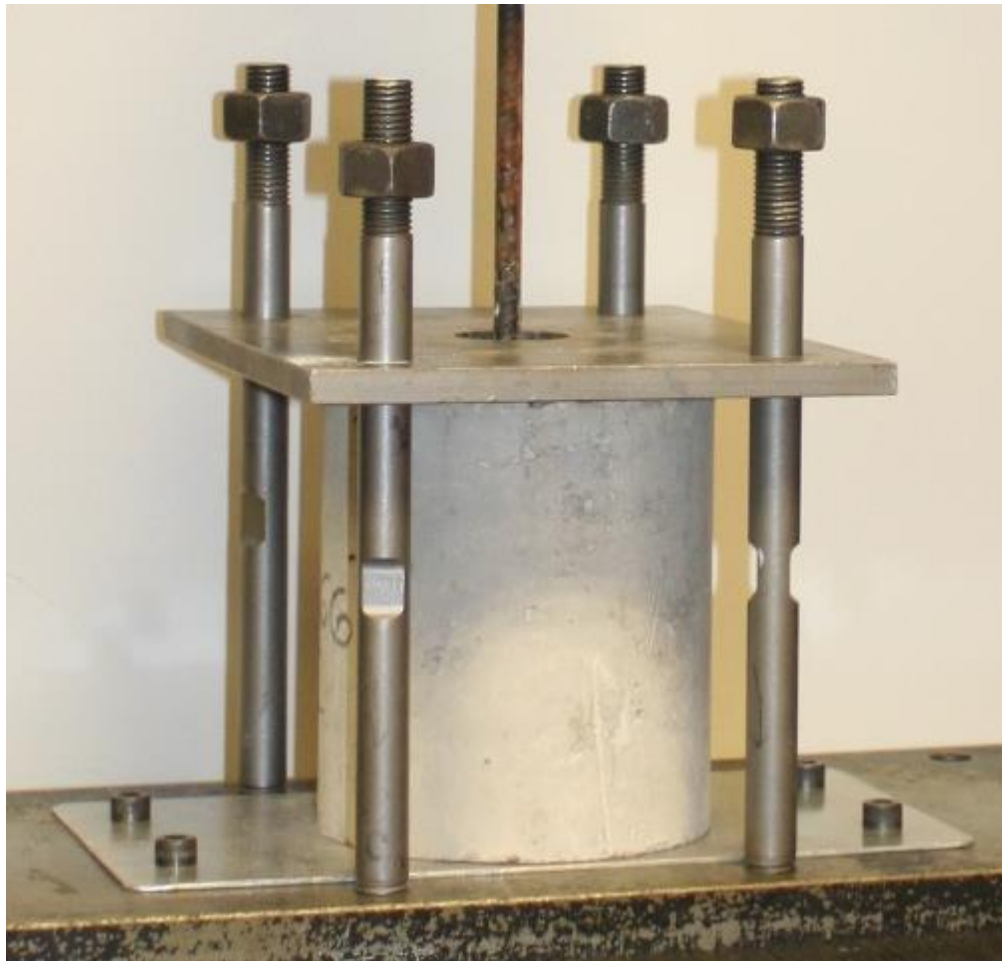

Figure 4—Fixture for Holding a Concrete Block During a Wet Pullout Test
- 14.2.10 *Fixture*, shown in Figure 4, to hold the concrete block end of the pullout specimen. This apparatus consists of the following: one steel plate, four steel rods with threading on both ends, and four bolts. The plate must be $10.75 \times 8.75 \times 0.5$ in. ($273 \times 222 \times 13$ mm) and must have five holes: one 0.8-in. (20-mm) diameter hole in each corner, and one 1.75-in. (44-mm) diameter hole in the center. The four steel rods must be 13.75 in. (350 mm) long and 0.77 in. (20 mm) in diameter with 2.25 in. (57 mm) of threading on each end. The threading must be able to fasten into the bottom plate of the testing machine on one end and fasten into the bolts on the other end. Alter the dimensions to accommodate other testing machines.